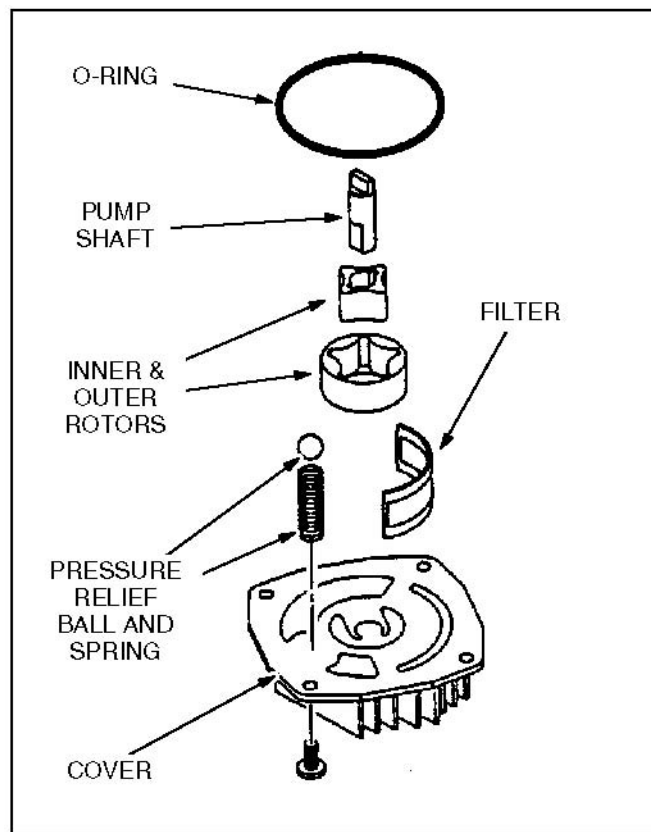

FIGURE 74. OIL PUMP
- a. Clean, service and replace pump parts as necessary (Figure 74).